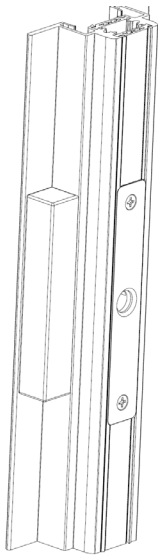

Figure 19
22. Drill four (4)  $\frac{3}{16}$ " clearance holes at the marked locations of the strike plate. Anchor the lock strike to the jamb with #10 x 2-1/2" PH Flat Head screws. Shim as needed to avoid bowing the frame. (See Figure 19.)